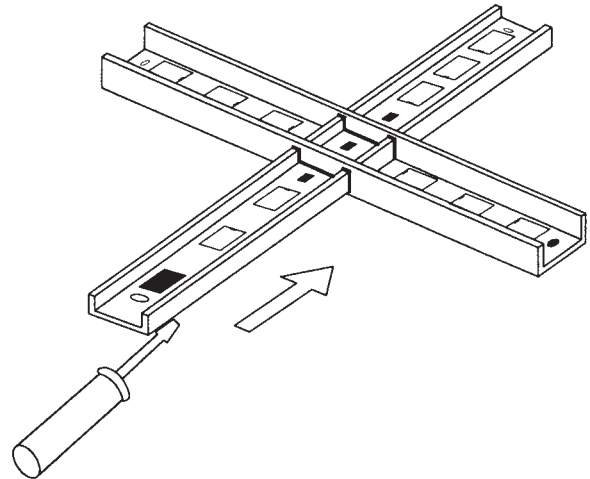

FIGURE 2
8. Slide the smaller channel through the slot on the larger support channel. See FIGURE 2. Use the 1/4 x 20 bolt supplied to connect the FM2 to the support channels (via the center hole in the two channels). **BE CAREFUL WHEN HANDLING THE SUPPORT CHANNELS; EDGES MAY BE SHARP.**